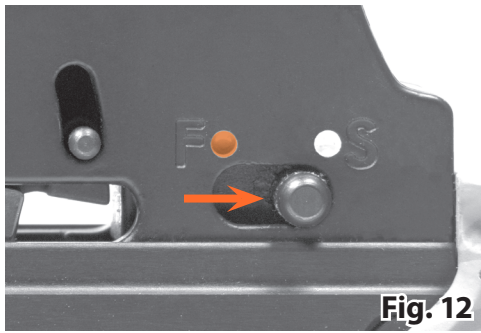

Fig. 12
2. Slide the safety switch from the FIRE position to the ON SAFE position (Fig. 12).
4. Carefully inspect the safety switch to ensure that it is fully in the ON SAFE position (Fig. 12). If the safety switch has not moved all the way back to the WHITE dot, it has not been placed ON SAFE and is still in the FIRE position. Always visually inspect the safety switch to make certain that it is in the desired position.
⚠ WARNING: IF FOR ANY REASON THE SAFETY SWITCH DOES NOT FULLY MOVE TO THE ON SAFE POSITION (FIG. 12), SAFELY DE-COCK THE BOW THROUGH THE USE OF AN ARROW AS DESCRIBED IN SECTION 9.2. DO NOT USE THE CROSSBOW. CALL CUSTOMER SERVICE AT 715-718-3574 FOR AUTHORIZED REPAIR.